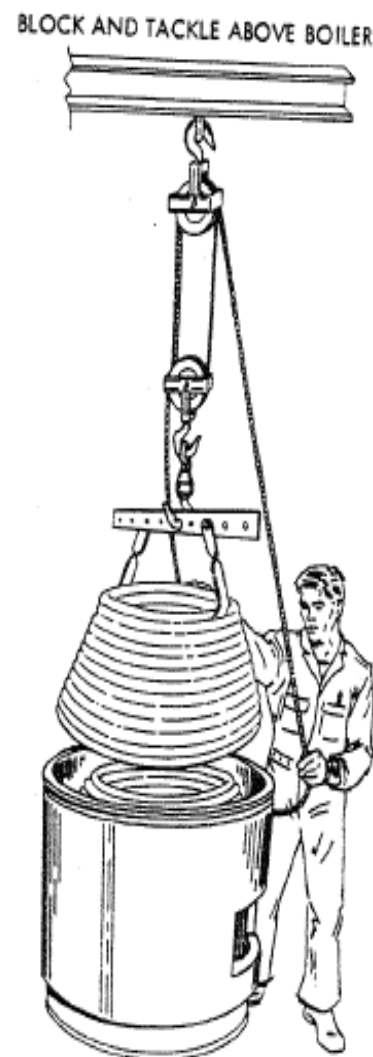

Figure 1, Boiler Servicing
5.3 The boiler is disassembled from the top. A structural member capable of supporting at least 1000 pounds should be installed above the boiler to which a hoist can be installed as illustrated in Figure 1. At least four feet clearance above the boiler is required for this service operation.